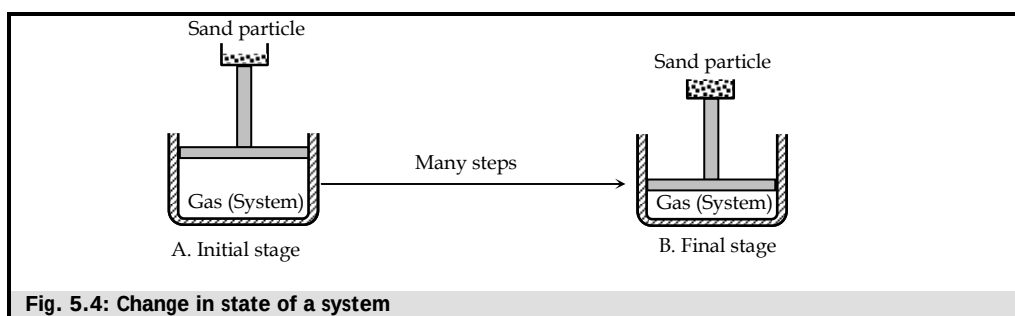

Fig. 5.4: Change in state of a system
Let the gas be at initial state as shown in the figure 5.4 (A). The amount of sand particles is gradually increased into the piston at different time interval. At each time, the weight of particle pushes the piston downward as equivalent to $W = mg$. Due to this, the pressure of gas within the cylinder increases but infinitesimally at each step. When the process is repeated till large amount of sand (say 500 gram) particles are added then the piston reaches at final step as shown in figure B. In this example, the final state is reached reversibly from initial state in infinitesimally large number of steps. If each particle of sand is removed one at each time, previous stage can be achieved. This illustrates an example of reversible process.